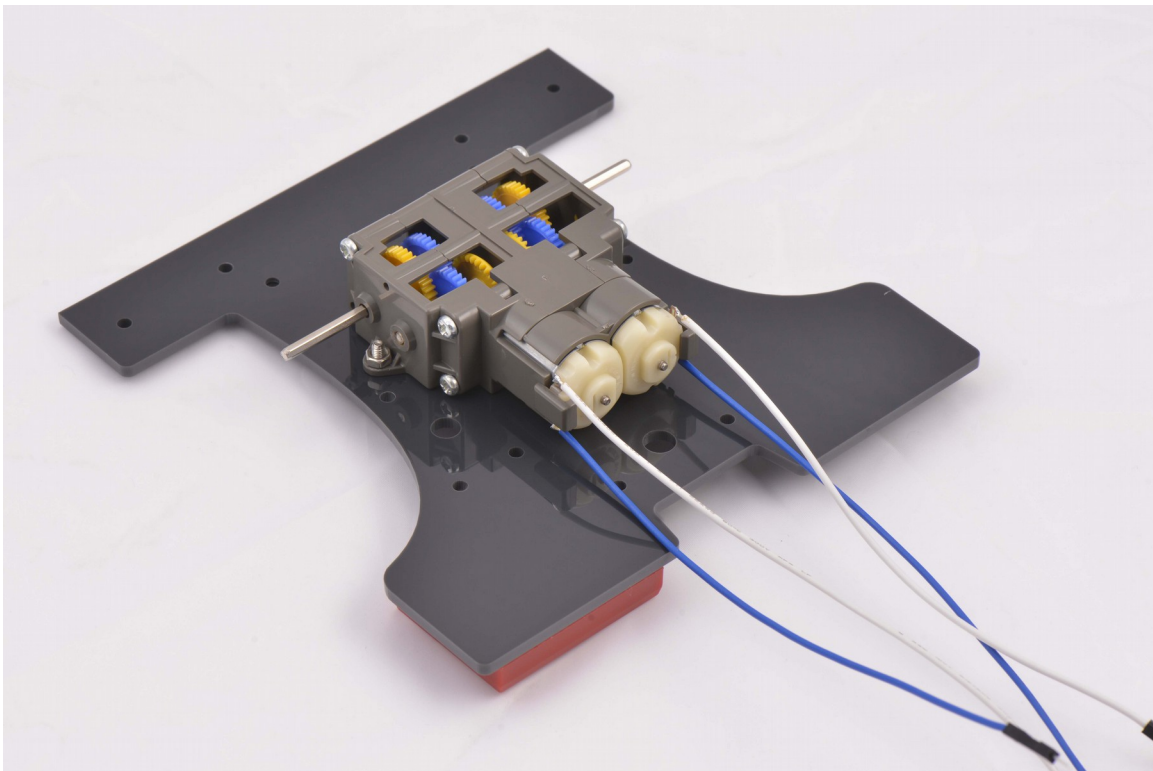

Figure 2.3
The mounted gearbox is shown in figure 2.3. Make sure that the gearbox is mounted using the two center countersunk holes, two (2) flat head 4-40 x 3/8" screws and two (2) 4-40 nuts.